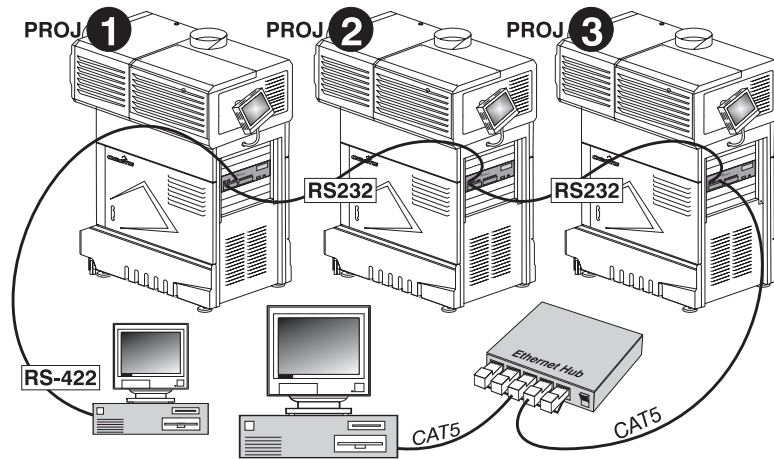

Figure 2.26. Joining All Networks
► To relay all messages to all ports—RS232, RS422, and Ethernet—set the “Network Routing” option in the *Communications* menu for each projector to “All Joined”. This configuration is useful if you are using a non-RS232 controller with the RS232 linking available between these *Cine-IPM 2Ks*. For example, you may want to use both an RS422-compatible controller and an Ethernet-connected PC for working with a network of *Cine-IPM 2Ks* linked via their RS232 in/out ports (Figure 2.26).
To isolate *just* RS422 communications, select “RS232 and Ethernet Joined”. In Figure 2.26, only projector #1 will respond to the RS422 controller. To isolate *just* Ethernet communications, select “RS232 and RS422 Joined”—only projector #3 will respond via Ethernet while all will respond to the RS422 controller.